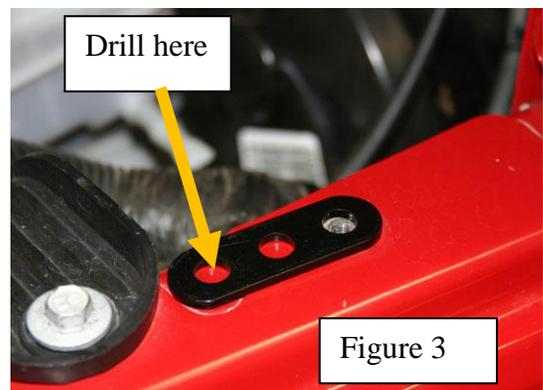

Figure 3
1. Lift the hood and prop it up with the factory prop rod. Remove the rearmost 10mm bolt on each fender and save it for later. Lay a spacer plate over the hole per the photograph, Figure 3. Note the relationship with the plastic brace. The spacer plate should almost touch it. Figures 3 and 4 show the Driver's side, near the rear of the engine compartment.